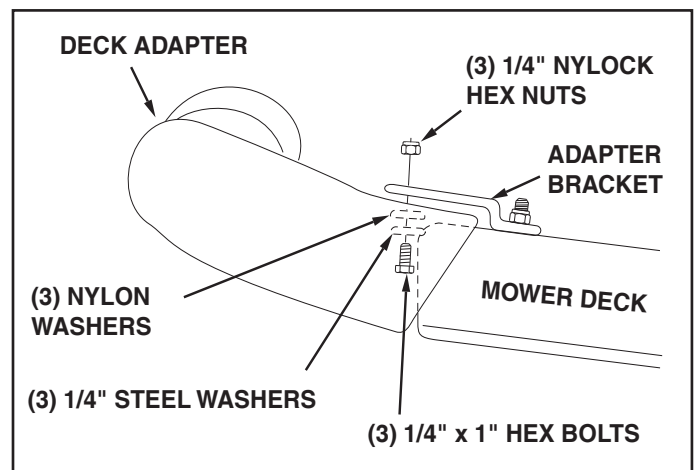

FIGURE 27
- With deck adapter positioned correctly over the discharge opening, use the adapter bracket as a template and drill three 9/32" diameter holes in the top of the deck adapter. See figure 27.
- Bolt deck adapter to bracket using three 1/4" x 1" bolts, nylon washers, 1/4" flat washers and 1/4" Nylock hex nuts. Nylon washers should be against the inside of the deck adapter. See figure 27.